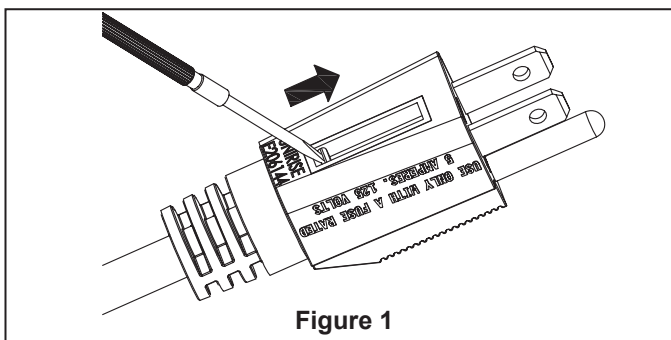

Figure 1
1. Carefully remove from package. Plug cord directly into the electrical outlet. (Figure 1)
2. Slide open fuse access cover on top of the plug, pushing away from the cord and toward the blades (Fig. 1).